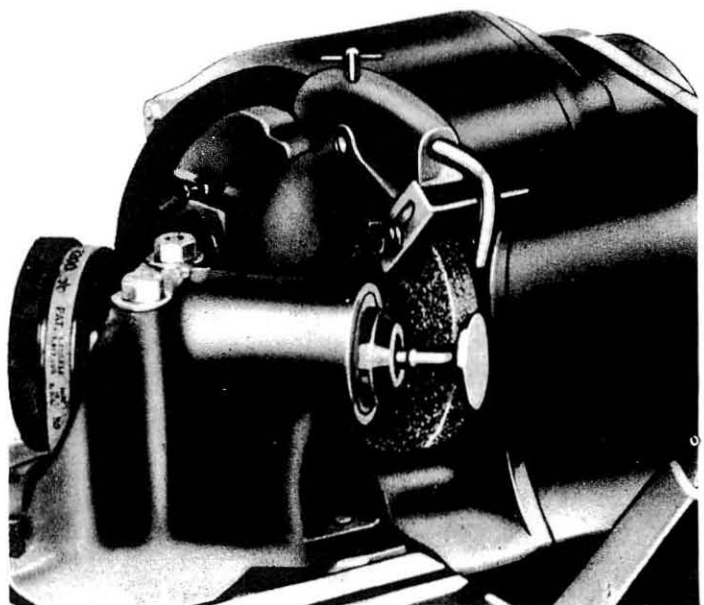

Fig. 10—Grinding Valve Face
(4) **REFACING VALVES.** Remove all carbon from the valve head and stem. Grind the face of the valve at 45° angle as shown in fig. 10. If the valve head is less than $\frac{1}{32}$ inch thick at the outer edge replace the valve.